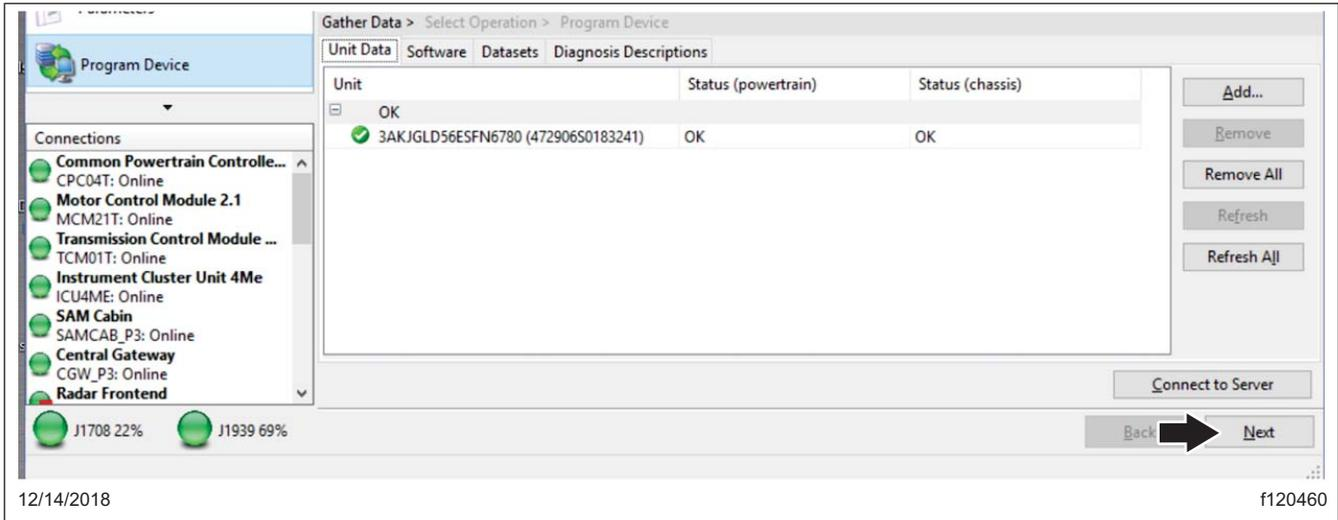

Fig. 8, Clicking Next
10. Once the data has been downloaded, click "Next." See Fig. 8.